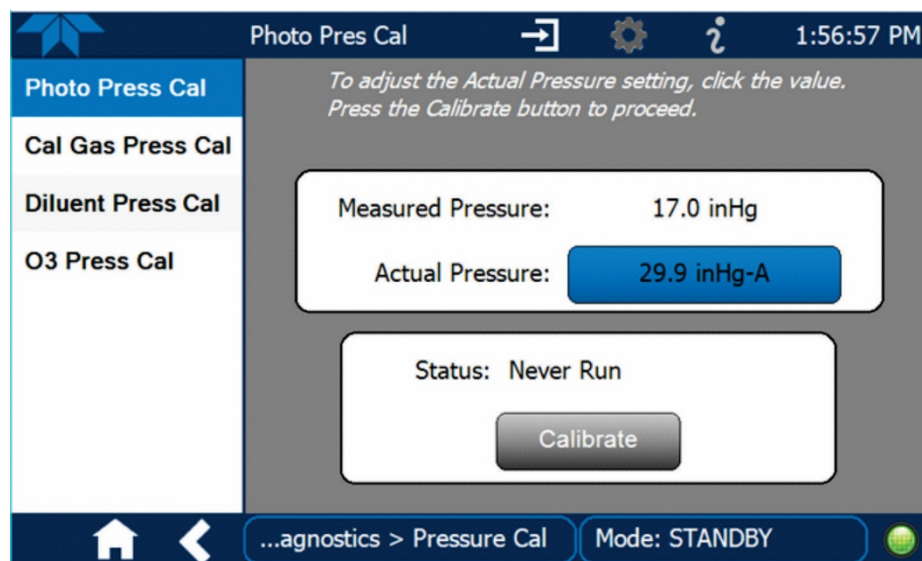

Figure 5-14. O3 Photometer Pressure Sensor Calibration Page
4. Turn on the calibrator, and in the Diagnostics>Pressure Cal menu (Figure 5-14) highlight Photo Press Cal.